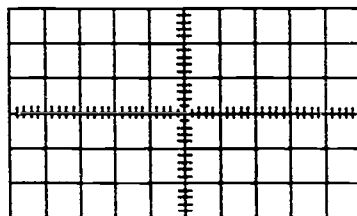

Figure M-8-6
2. Plug in the light and turn on the dimmer switch until it "clicks" in the "on" position. Use Figure M-8-6, "Oscilloscope Grid--Clicked," and make an accurate sketch of what is seen on the screen. Be sure to show at least one complete cycle.
- a. To find the period (T), count the divisions between consecutive peaks.